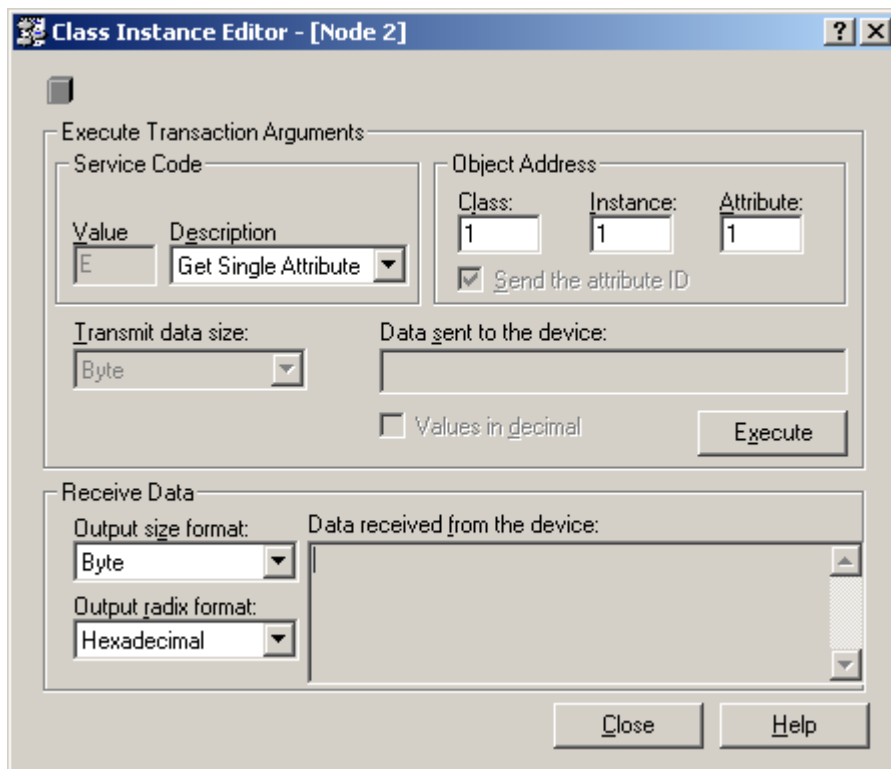

Figure 2 Class Instance Editor can be used to access Ethernet/IP object attributes explicitly.
- Disable the “Configuration” assembly instance (1) by setting its size to ‘0’.
- Use class instance editor to edit the attributes of Ethernet/IP objects if necessary (Figure 2).